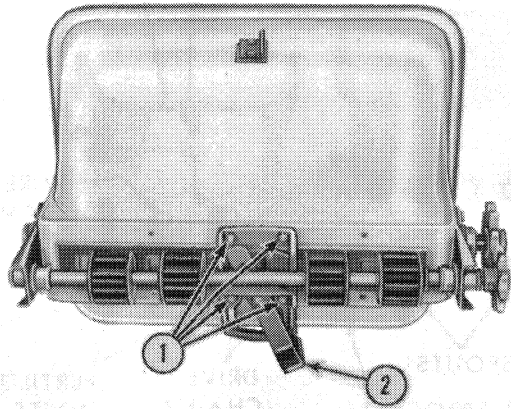

Figure 15
The fertilizer hopper capacity is approximately 240 lbs. per hopper, and one fertilizer attachment is required for each two-row unit. The rate of application can be varied from 10 lbs. to 600 lbs. or more per acre. The rate of flow will vary with the type and condition of the fertilizer. Consequently, the adjusting lever (2), Figure 15, is not calibrated in pounds but is calibrated with reference marks only. The largest reference mark indicates the largest shutter opening and the greatest fertilizer application. The rate of fertilizer applied must be determined under your specific conditions.
To set the adjusting lever (2), Figure 15, so it is at zero when the shutter is closed, loosen the four bolts (1) that hold the gauge bracket to the hopper bottom. Set the shutter control handle at the zero mark on the gauge bracket and slide the gauge bracket and shutter assembly to the right or left until the hopper openings are just closed. Tighten the four bolts (1), securely.